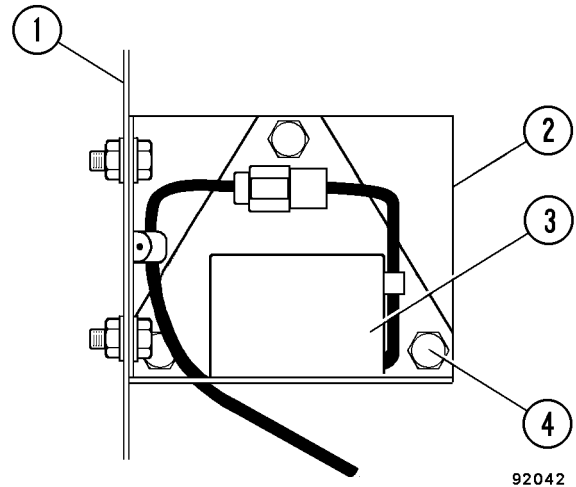

FIGURE 20-13. INCLINOMETER
2. Remove the three capscrews, nuts and lockwashers (4, Figure 20-13) and inclinometer (3).
1. Install inclinometer (3, Figure 20-13) with capscrews, nuts and lockwashers (4).
2. Loosen the three inclinometer mounting capscrews (4, Figure 20-13) and rotate the inclinometer until a voltage range of 2.6 ± 0.1 volts can be measured (using a volt-meter) at pins 1 and 2 of the inclinometer harness connector.
3. Tighten all capscrews (4, Figure 20-13) to standard torque, after the adjustment.